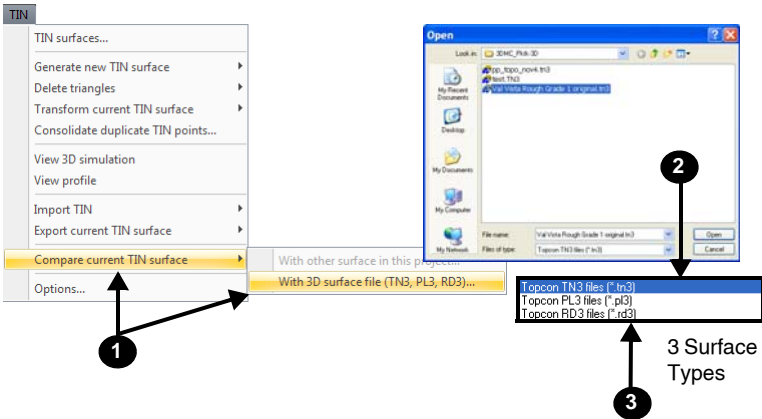

Figure 5-20. Compare Surfaces in 3D Project File
2. Select the *Surface of type* to compare with from the drop-down list (Figure 5-20).